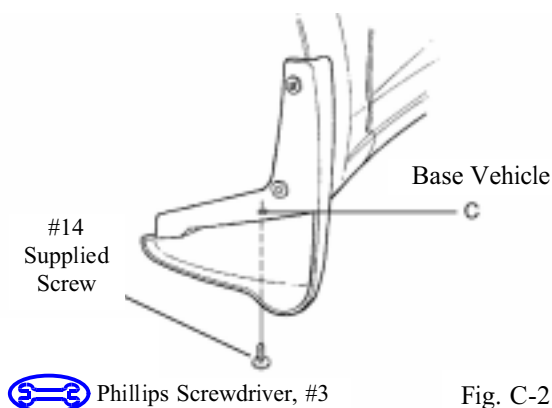

Fig. C-2
2. Install supplied #14 screw in location C while holding part tight against body (Fig. C-2).